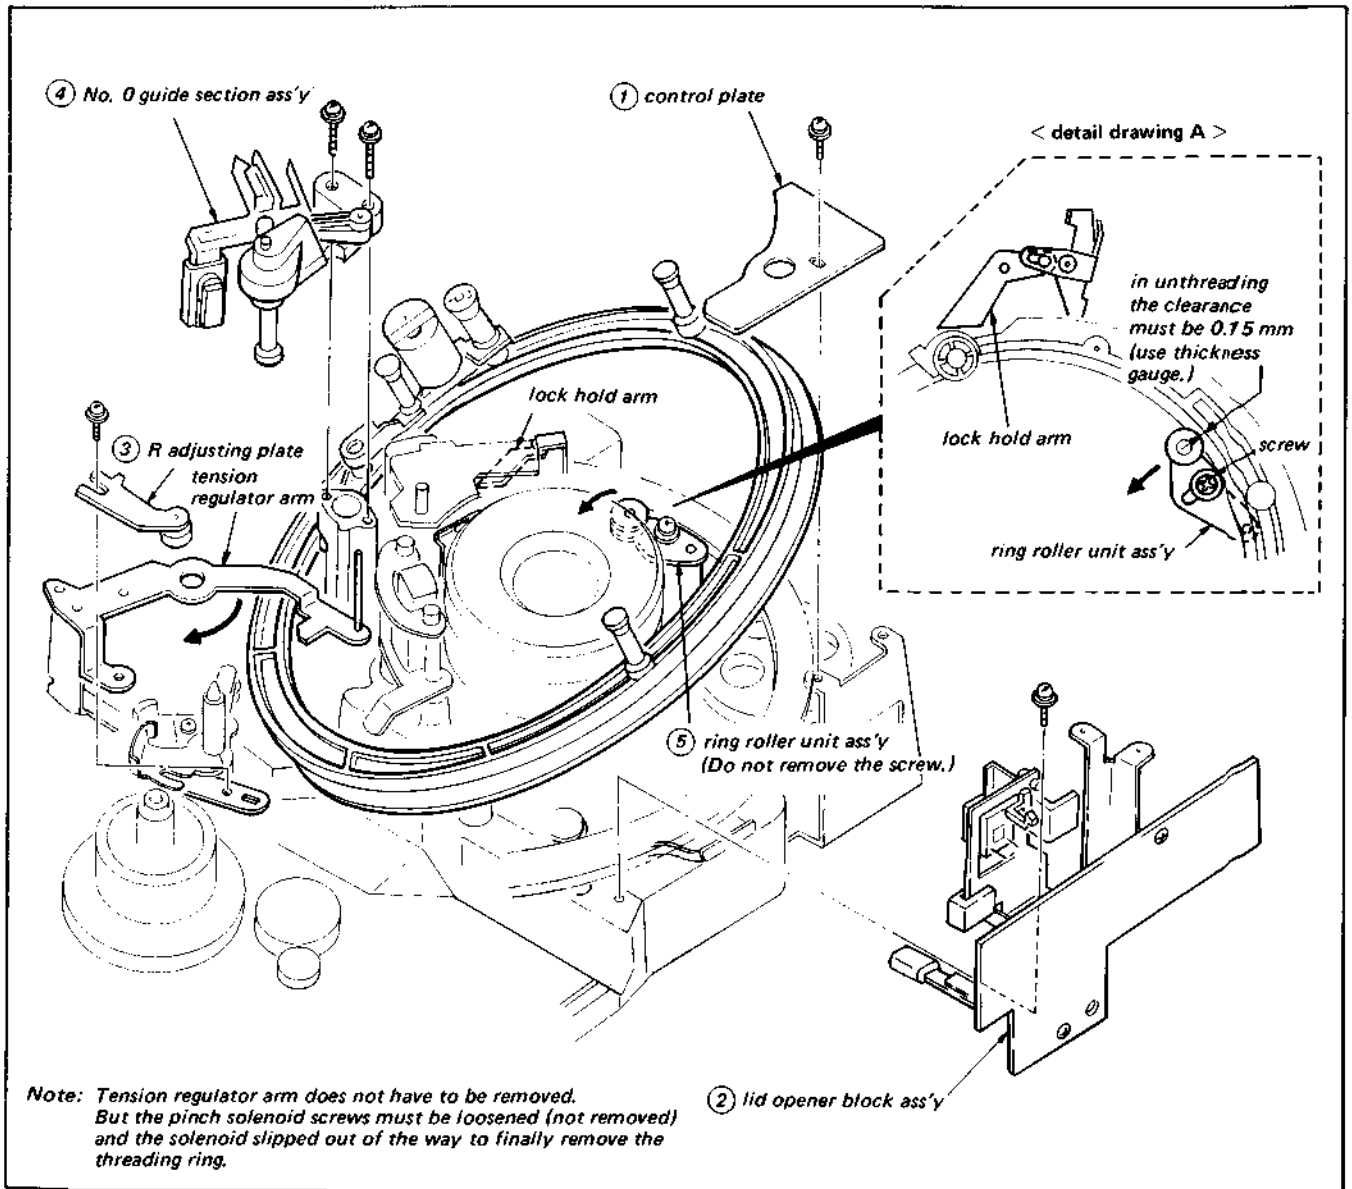

Fig. 3-29. Replacement of threading ring block assembly
1. Turn the threading ring to a point immediately before the threading completion position and stop it at the point where it does not touch the lock hold arm. (See Fig. 3-29.)
2. Perform procedures ① to ⑤ shown in Fig. 3-29.
4. Perform the adjustment of control plate ①, R adjusting plate ③, No. 0 guide section assembly ④, and ring roller unit assembly ⑤ after the replacement.
- (i) As to the adjustment of control plate ① refer to "Position Adjustment of Threading Unit B assembly and Control Plate", Section 3-9-2.
- (ii) As to the adjustment of R adjusting plate ③, refer to "Clearance Adjustment of Ring Arm", Section 3-9-6.
- (iii) As to the adjustment of No. 0 guide section assembly ④, perform procedure 6 of this section.
- (iv) As to the adjustment of ring roller unit assembly ⑤, perform the adjustment, referring to detail drawing A in Fig. 3-29.